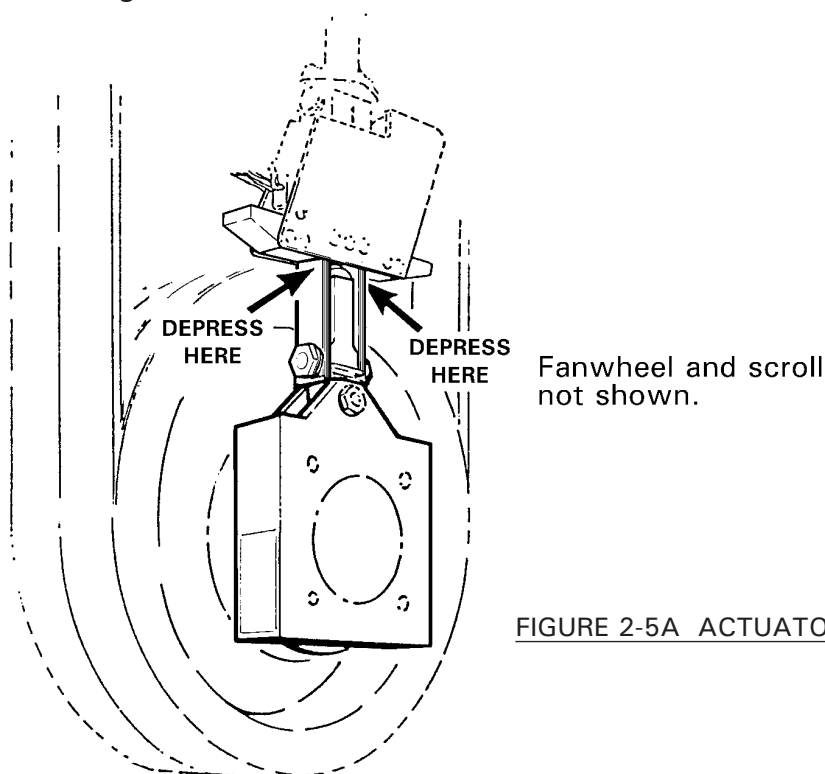

FIGURE 2-5A ACTUATOR FUNCTION TEST
- a. Refer to Figure 2-5A. Depress column springs on one side of actuator until springs snap inward (use large screwdriver or similar tool with several layers to tape over end to protect actuator). Hold springs inward for at least one second. Actuator motor should not run. If motor starts, allow motor to run approximately two seconds, then release pressure on column springs. Depress column springs again. If motor starts again, opposite spring switch does not function properly. \_\_\_\_\_